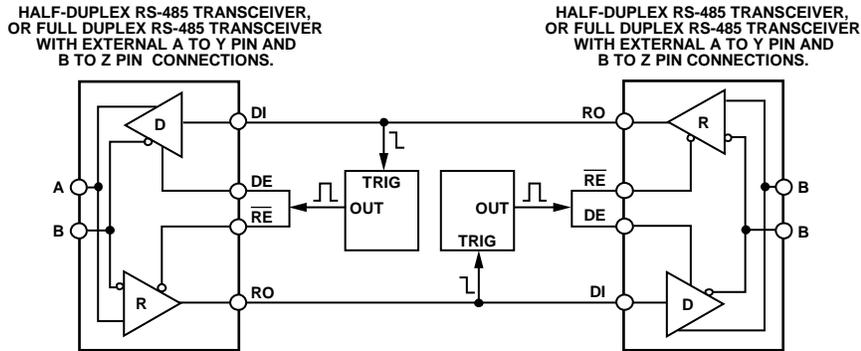

Figure 2. Simplified Half-Duplex Byte Timing Direction Control Block Diagram
In byte timing direction control, when data arrives on one side of the repeater, the receiver output (RO) triggers a one-shot pulse, which in turn enables the driver on the other side, as shown in Figure 2. The pulse must sustain long enough to allow the driver to transmit the entire data packet.